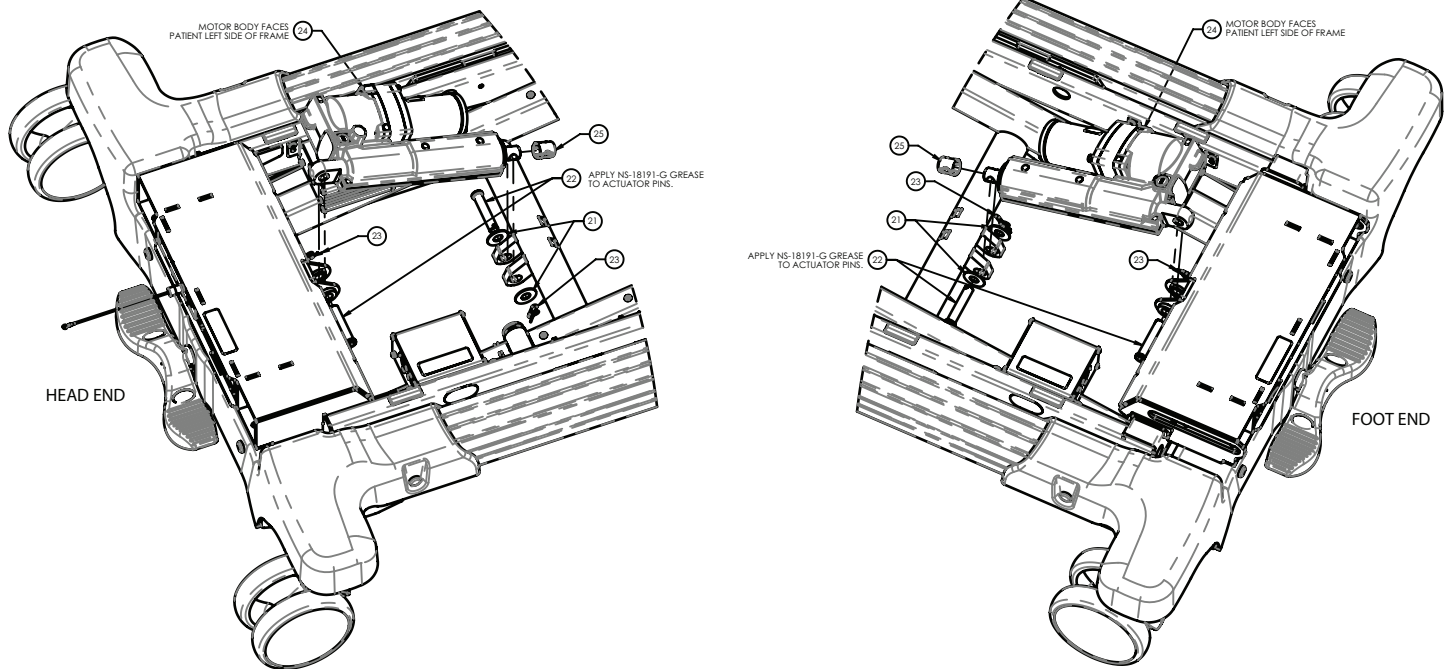

Figure 32 – Lift actuator replacement
10. Using needle nose pliers, remove both rue ring retaining clips (23) from the clevis pins (22) that attach the actuator (24) to the litter weldment and lift weldment (Figure 32).
11. While supporting the actuator (24) with one hand, remove the head end clevis pin (22) and foot end clevis pin (22) and then lower the actuator down (Figure 32).